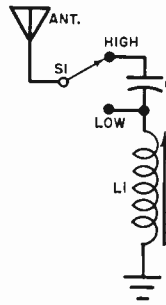

Fig. 2. Better coupler has s.p.d.t. switch to insert or remove 100-pf. capacitor C1. Ferrite antenna coil L1 fine-tunes antenna.
**A Better Coupler.** A better antenna coupler tunes the antenna to the frequency of the station you want to hear. It consists of an adjustable ferrite coil with a series capacitor that can be switched in or out of the circuit (Fig. 2). With the capacitor in the circuit, the upper half of the broadcast band is covered, and with the capacitor out of the circuit, the lower half is covered. You can adjust the ferrite coil to obtain optimum results.
Looking at the backs of the two couplers diagrammed in Figs. 2 and 3, it's obvious that there isn't any complex wiring to be done. Use point-to-point wiring throughout, build panels of Masonite, woodscrap.
**Using the Couplers.** To use the coupler shown in Fig. 2, first select the switch position (capacitor C1—a 100-pf. unit in this coupler—in or out) that corresponds with the frequency you want to hear, and then adjust the slug in L1
for best reception. Coil L1 in Figs. 2 and 3 is an Olson Radio No. L-75.